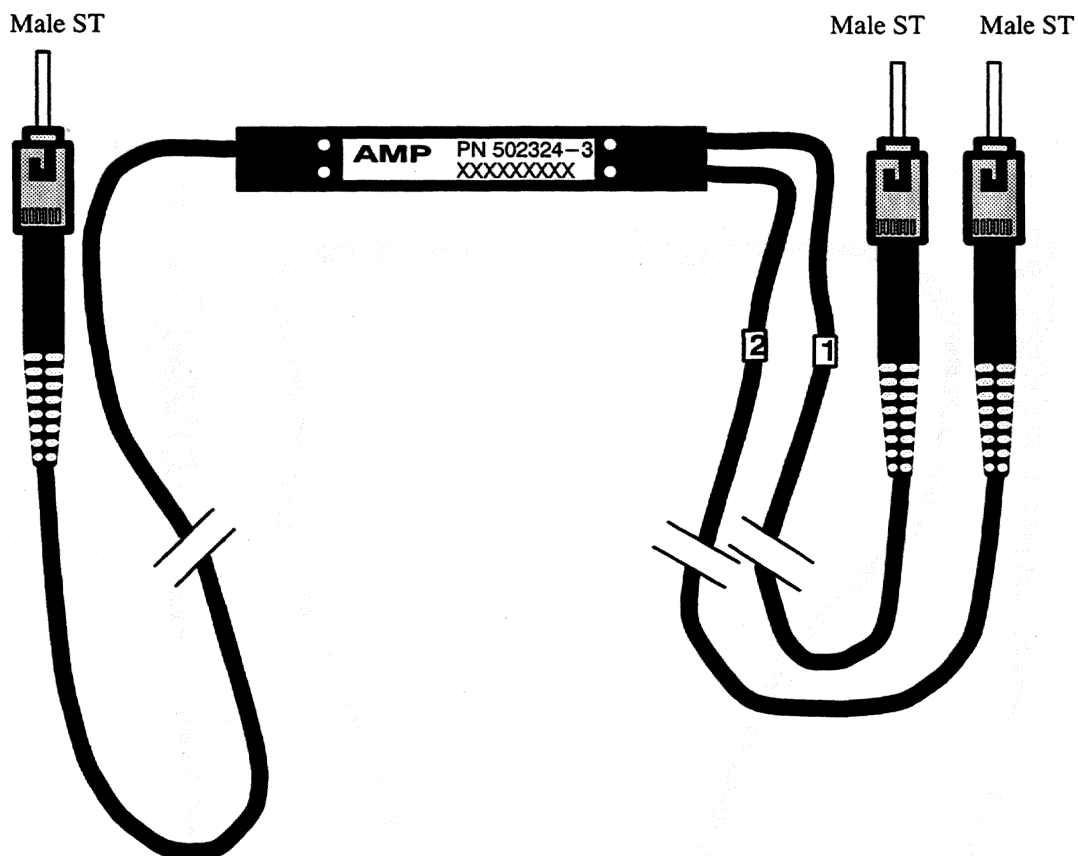

Figure 6-15 Multi-Mode Fiber Optic Splitter Cable (Black Body, Black Cable, Black Connector), Male ST to 2 Male STs.
2. *Multi-Mode Fiber Optic Splitter Cable.* The multi-mode fiber splitter cable shown in Figure 6-15 has a black body with a black cable and black connectors, one male ST to two male STs. It is equivalent to AMP's cable labeled PN 502324-3. (Referred to as "Z" in cable diagrams beginning with Figure 6-21.)